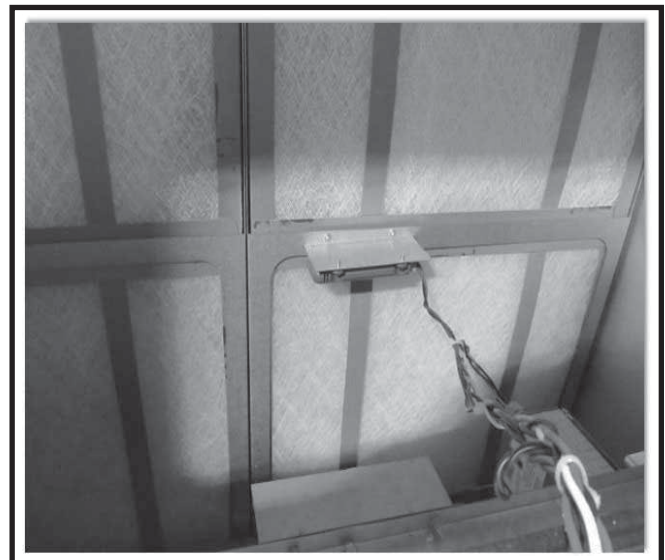

Figure 4. Mixed air sensor (C7250A) mounted on unit filter rack
11. Mount mixed air sensor (C7250A) to filter rack in existing holes See Figure 4.